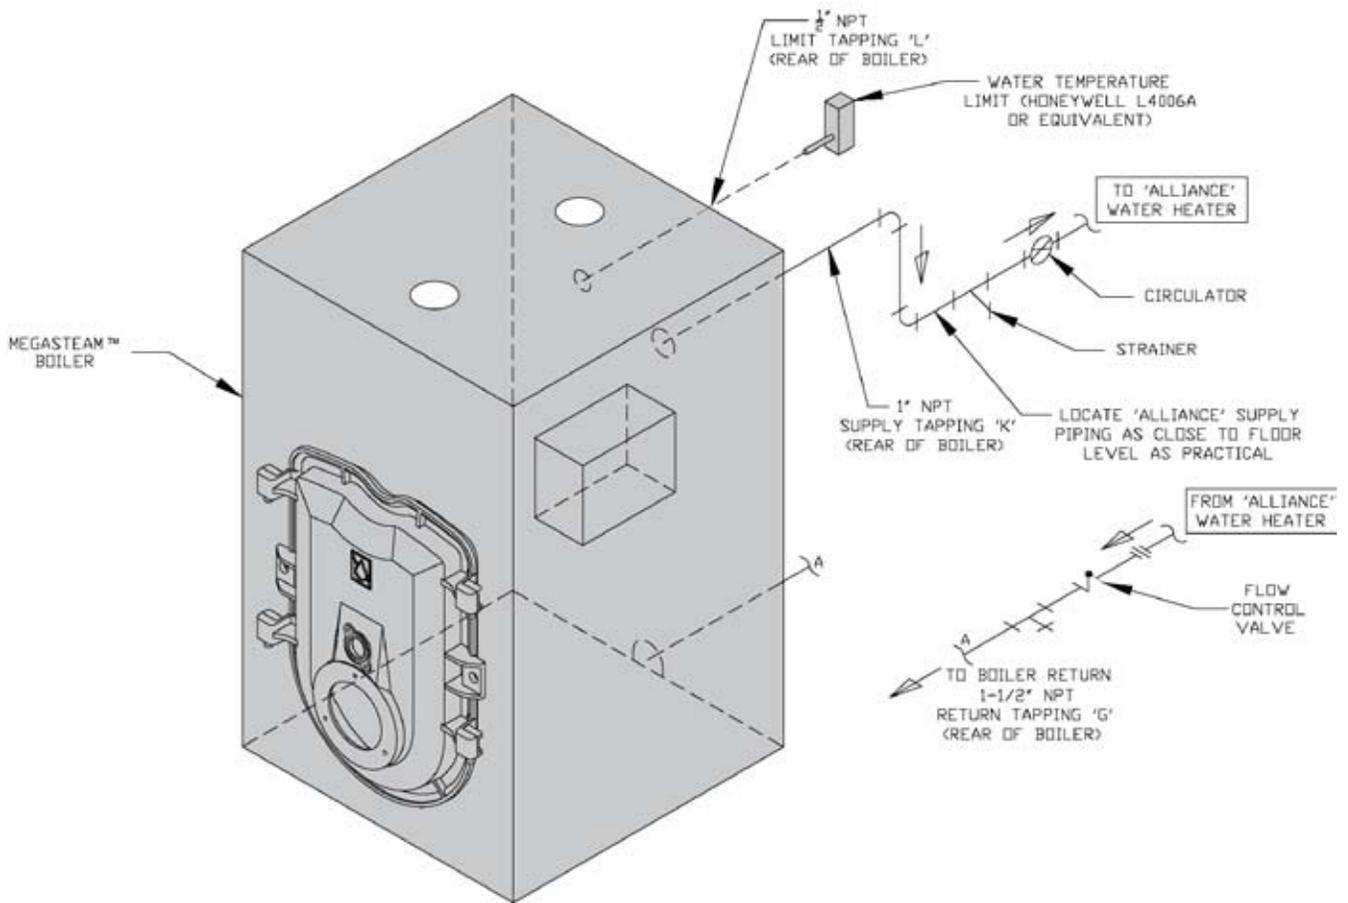

Figure 13: Alliance™ Water Heater Piping with MegaSteam™ Boiler
B. CONNECT ALLIANCE™ INDIRECT WATER HEATER PIPING as shown in Figure 13.